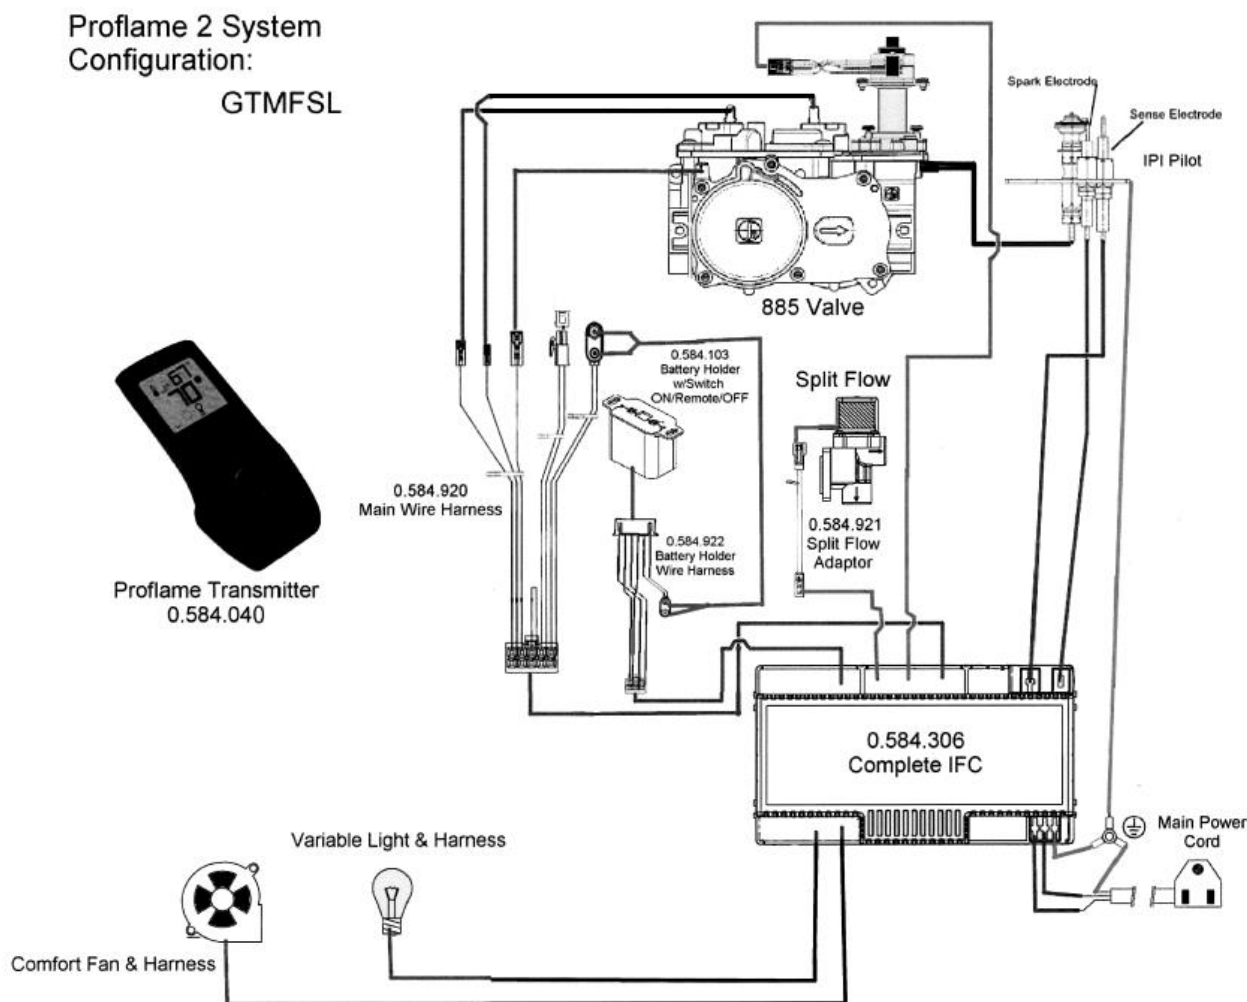

Figure 24 - Bristol 8762 Wiring Diagram
- 🔥 The termination must fall within the chart in Figure 24.
- 🔥 The termination must fall within the chart shown in Figure 24.